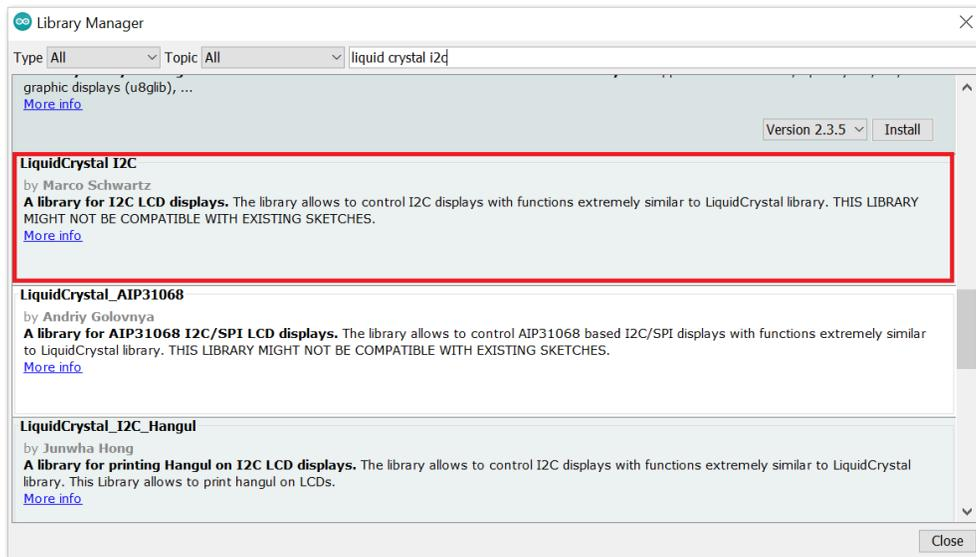

Figure 10: Installing the LiquidCrystal I2C library
2. On the Arduino IDE, go to **Sketch > Include Library > Manage Libraries**. The Library Manager should open, then install the LiquidCrystal I2C library, as shown in **Figure 10**.